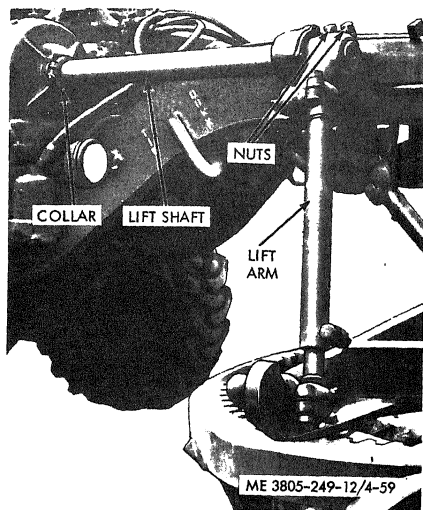

Figure 4-59. Lift shaft adjustment.
(3) Remove two bolts and lockwashers at the ball and socket joints at both ends of the link. Remove the end caps and shims. Lower the link to the ground.
(4) Support the lift arm.
(5) Remove the key, nut, washer and lockwasher.
(6) Remove the bolt, spring, washer and nut. Remove the lift arm from the shaft.
(7) Install the lift arm in the reverse order of removal.
(8) Adjust the end clearance (subpara. b)
b. *Blade Lift Shaft Adjustment.* Refer to figure 4-59.
(1) Loosen the setscrews in the collar.
(2) Insert a bar behind the lift arm and move the shaft as far forward as possible.